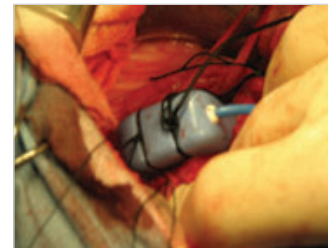

Fig. 6: Flowprobe shell in position over the liner.
7. Tie the second pair of sutures over the top of the Flowprobe shell (Fig. 6). The sutures keep the liner from sliding out of position during beating of the heart. This is recommended for both acute and chronic protocols as significant displacement in liner/shell alignment can affect accuracy.